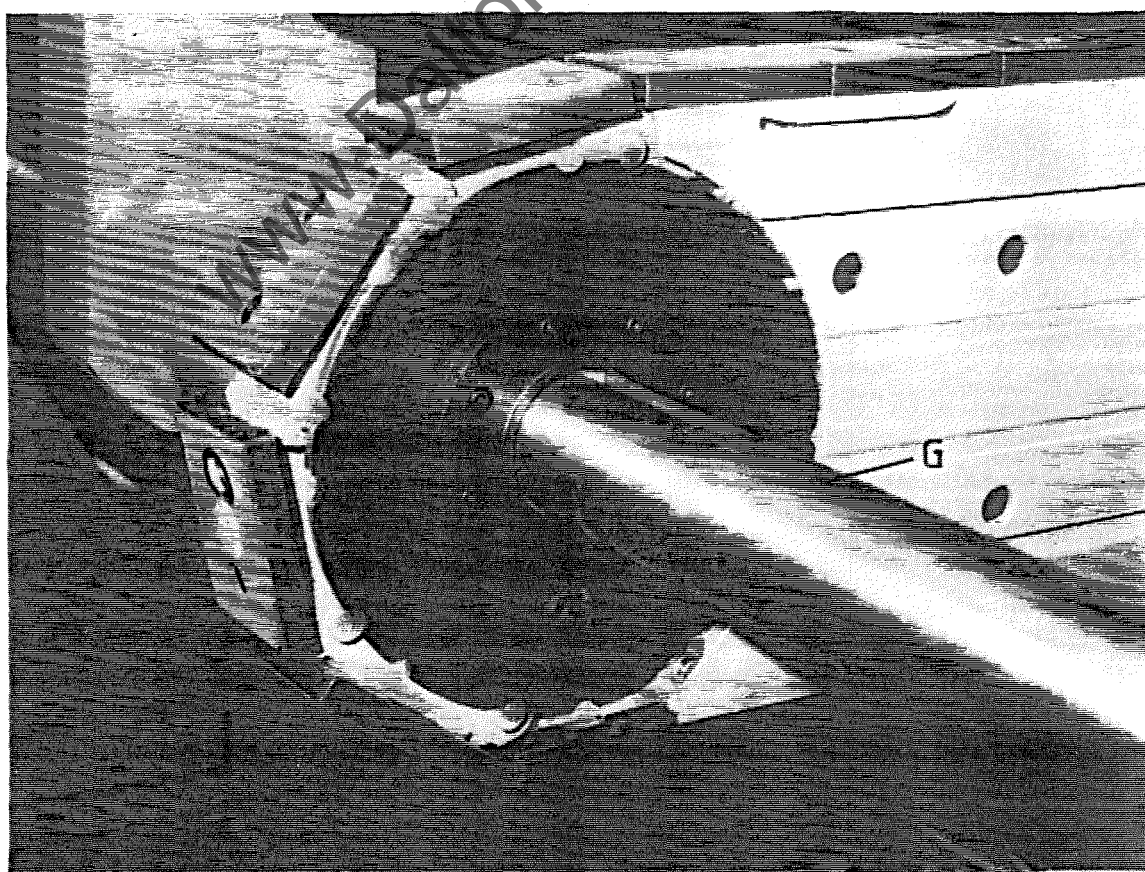
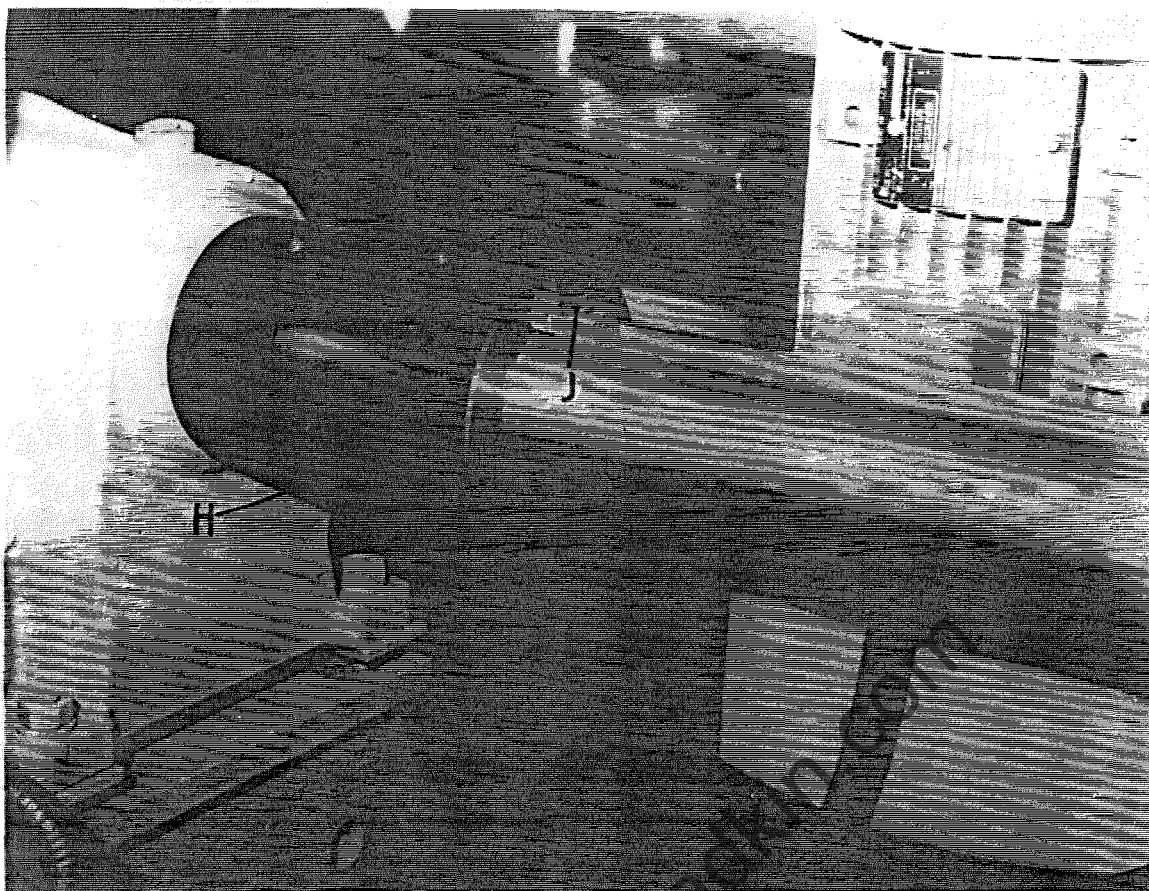

FIG. 12
FIG. 13
- 1 Insert backshaft "G" FIG.12 through 2 chain beam driving sprockets ensuring keys in driving sprocket locate in keyway of backshaft and locate in backshaft coupling "H" FIG.13.
- 2 Secure shearkey in coupling "H" FIG.13, with socket capscrew "J".